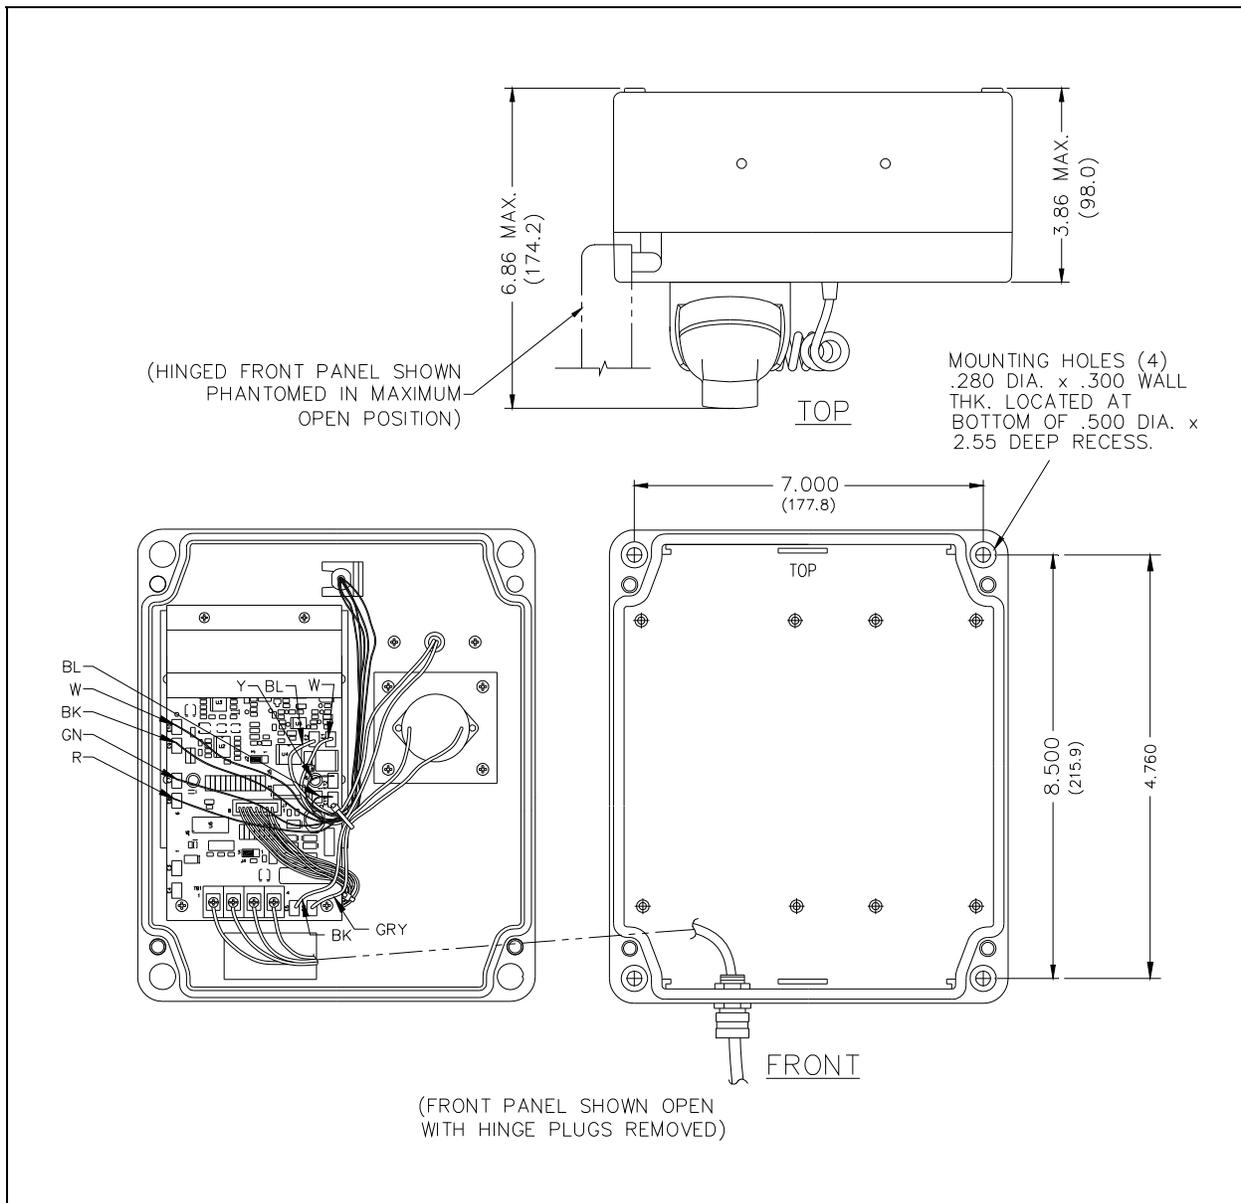

Figure 8. Model 246-001 Mounting Diagram
9. Mount the enclosure to the wall with four 1/4-20 machine screws with nuts and washers or with four #14 wood screws of the appropriate length for the mounting surface (see Figure 8).